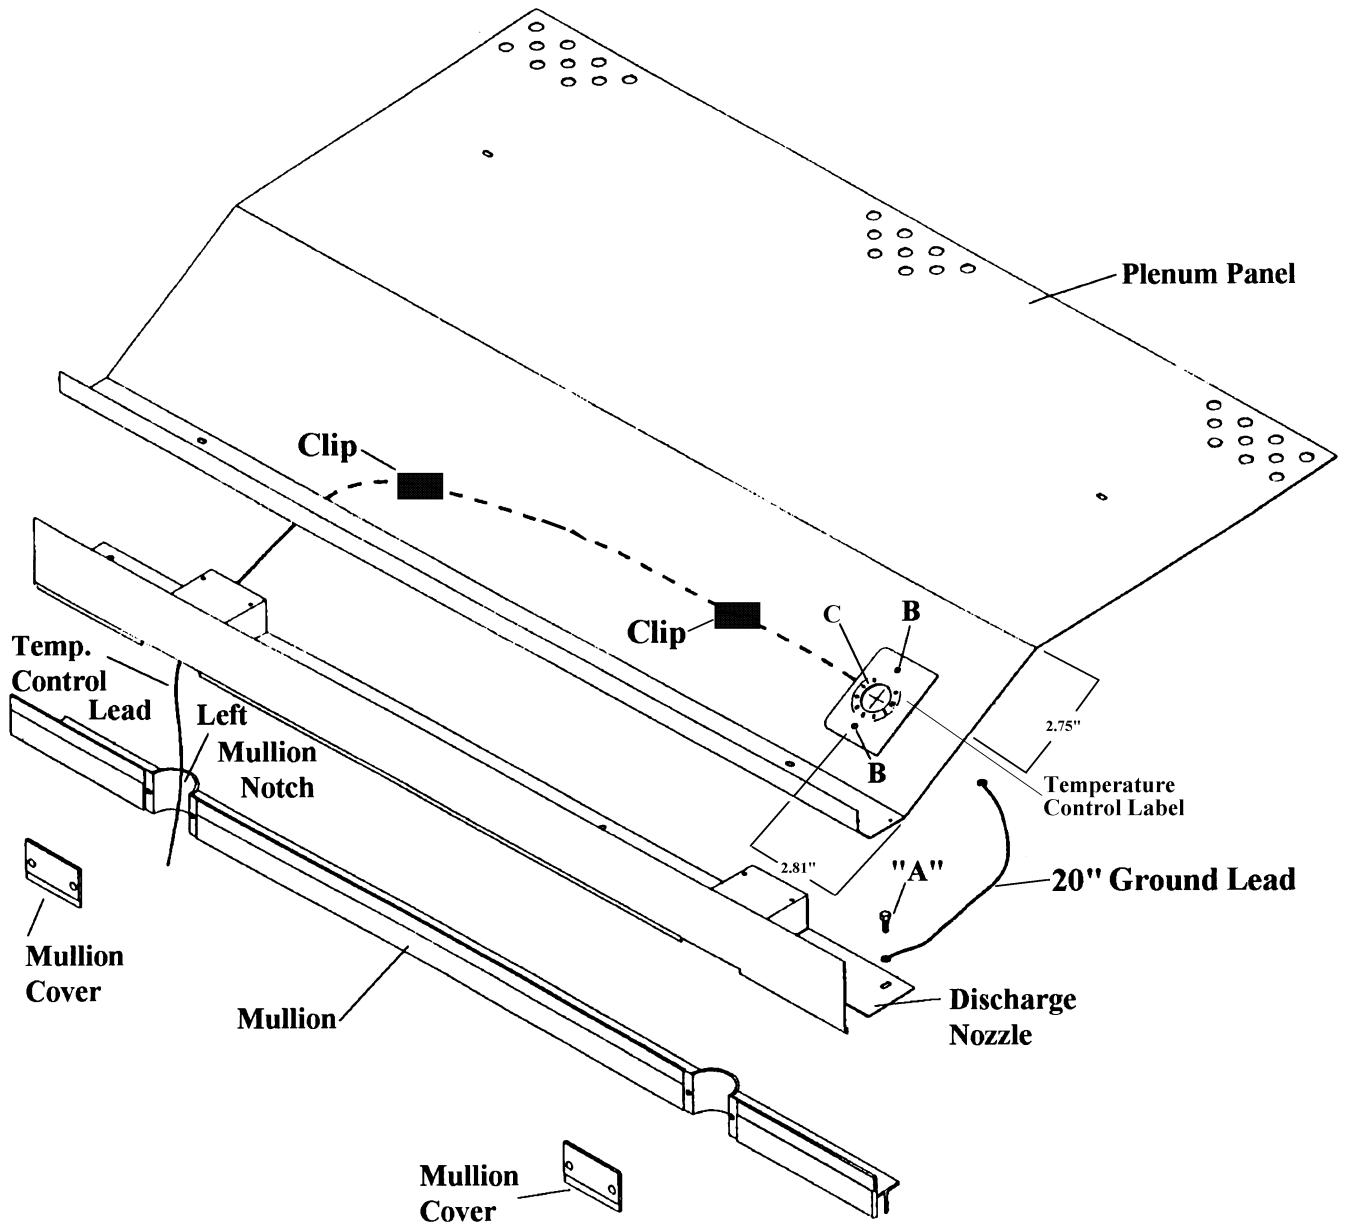

Figure 1
12. Use the temperature control mounting bracket as a template. Place it on the plenum panel as shown in figure 1, page 3. Mark the two screw holes for drilling and the large hole for punching.
13. Remove the temperature control mounting bracket. At the two screw hole marks, "B", drill 3/16" holes. At the large hole, "C", use a 1" chassis punch. (See figure 1, page 3.)
Note: Do not install the third (far right) screw/bolt at this time. See "A", figure 1, page 3.
18. Install the two clips with self adhesive backs (801,807,490.01) on the back of the plenum panel as shown in figure 1 on page 3.